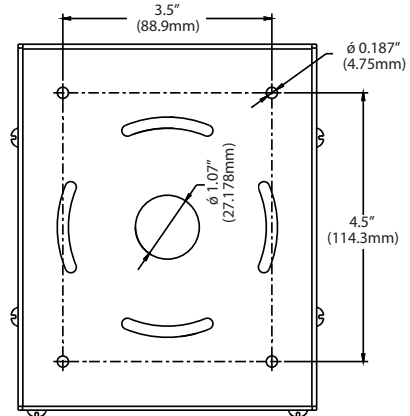

Fig. 3
1. Loosen screws (2) and remove **Side Panel** from **Pendant Box**.
2. Mount **Pendant Box** to ceiling by drilling out **Drill Out Locations** as shown on **Fig. 3**. Use appropriate mounting hardware suitable for the mounting surface.